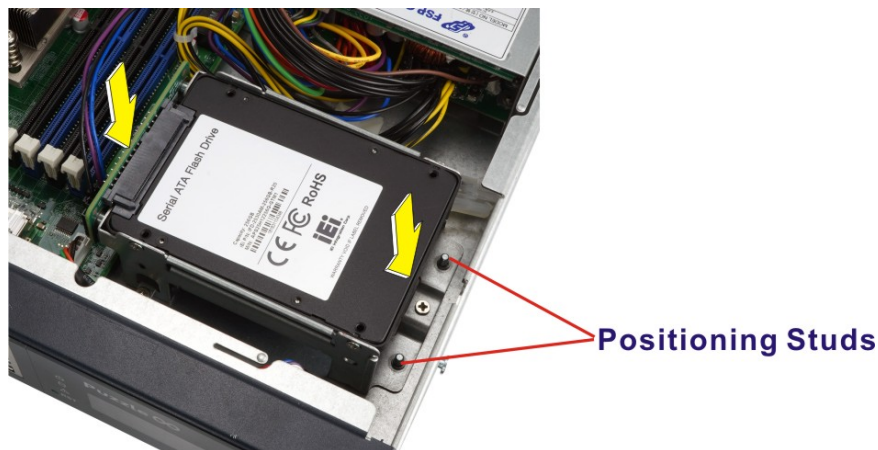

Figure 3-18: SSD Installation
- Step 3:** Remove the four SSD retention screws from the sides of the SSD. Pull the SSD out to disconnect the SSD. See **Figure 3-18**.
- Step 5:** Re-connect the SATA connector module to the motherboard. Make sure the two positioning studs on the chassis go through the two small holes on the SSD bracket (**Figure 3-18**). Secure the bracket to the chassis with three screws removed previously.